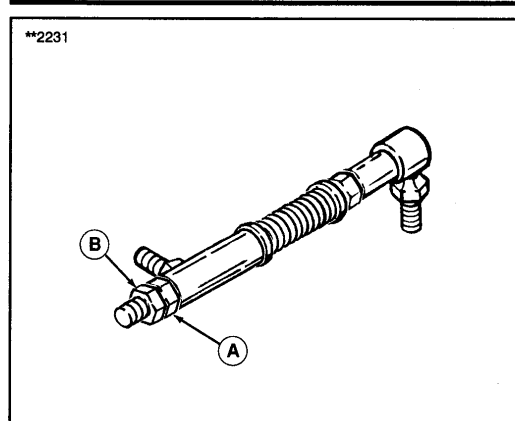

Figure 41. Hydro Control Linkage
4. Loosen jam nut (B, figure 41) and adjust control link length by rotating nut (A, figure 41) in either direction until wheels stop rotating. Snug jam nut (B) finger-tight.
6. Hold the adjustment nut (B) and tighten outer jam nut (A) securely.